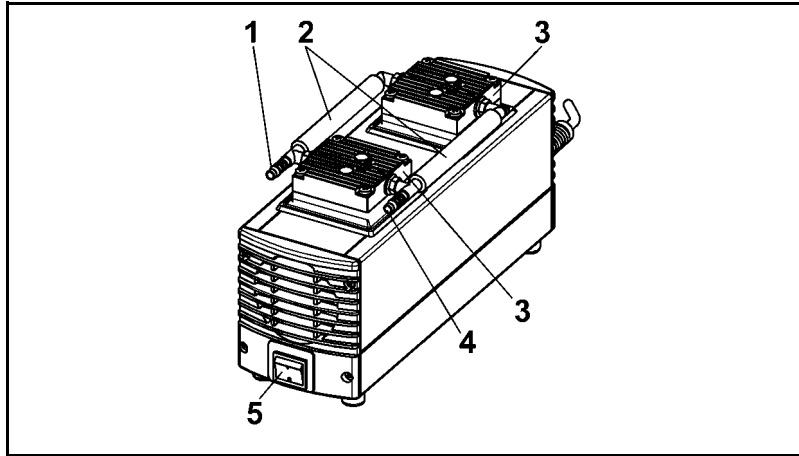

Fig. 2
- Switch on pump with mains switch (see fig. 2 to 6, depending on pump type)